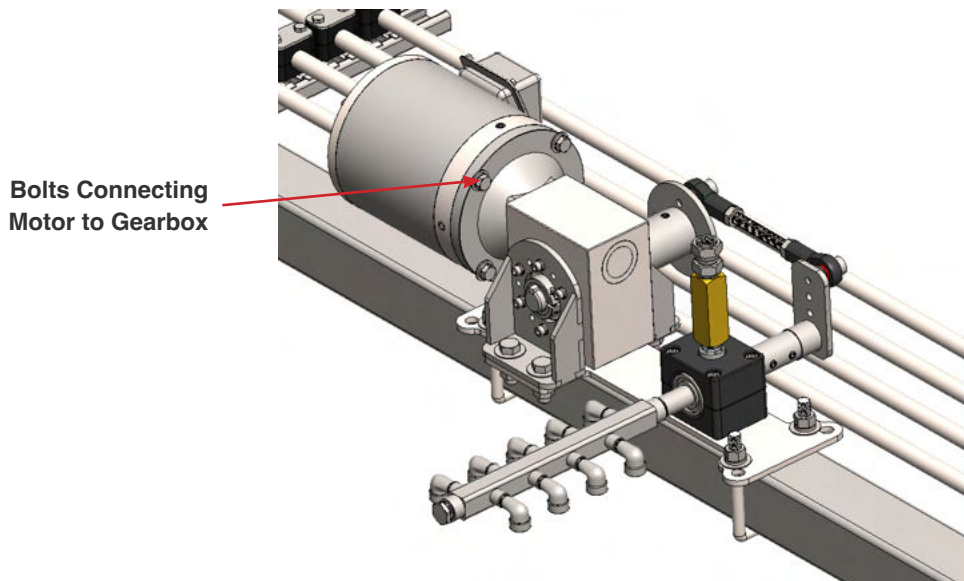

Fig. 7.1.2 - 1 - Replacing motor
4. Remove the four bolts holding the motor to the gearbox (Fig 7.1.2 - 1).